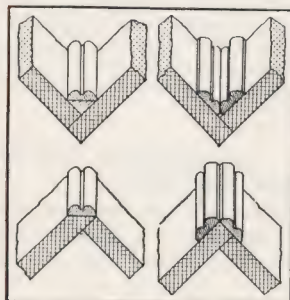
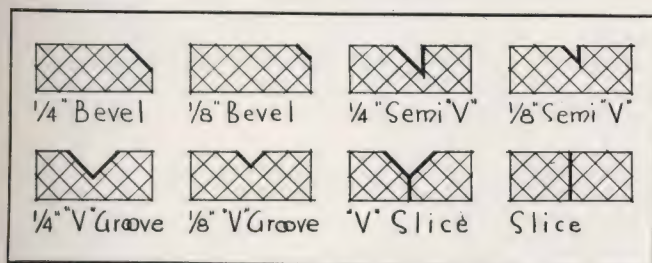
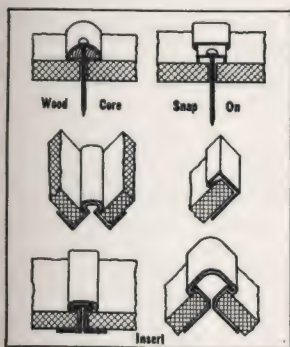
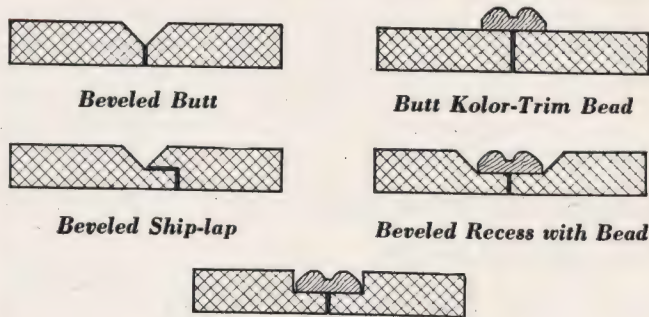

Fig. 6. Corner Treatments with Kolor-Trim Beads
Fig. 10. Typical Bevil-Devil Cuts
Fig. 11. Three Types of Metal Moldings
Fig. 12. Nu-Wood Board Treatments
Uses: Nu-Wood Board is used as interior finish on walls and ceilings in both old and new construction. Joints may be handled by beveling and butting the edges, see V-slice cut Fig. 10, page 8, or with overlays of Kolor-Trim Molding, Nu-Wood, wood or metal moldings, see Fig. 11, page
8, and Fig. 12, page 8. In addition to its uses as interior finish, Nu-Wood Board has many other uses in construction where an insulating material having structural strength is desired—in summer cottages, farm buildings, temporary buildings, etc.
Bead is used principally as a joint treatment. It may be applied directly to the surface of Nu-Wood or as a shadow joint treatment in which the edges of the Nu-Wood Board are recessed, see Fig. 12, page 8. Bead may be used to decorate and protect inside and outside corners, see Fig. 6. When several Kolor-Trim Bead moldings are grouped to form a chair rail or other decoration, interesting color combinations can be produced.
Fig. 10. A special tool, Bevil-Devil No. 101 is also available. It is designed specifically for rabbeting or recessing the edge of Nu-Wood Board to receive Kolor-Trim Bead as a joint treatment—see Fig. 12. The square or beveled recessed cuts, as shown in Fig. 12, can be made at a depth of $\frac{1}{8}$ inch, $\frac{3}{16}$ inch or $\frac{1}{4}$ inch in one operation. Bevil-Devil tools can be obtained from Nu-Wood dealers.
In general, metal moldings are of three types: (1) wood core, (2) snap-on, (3) insert, see Fig. 11.